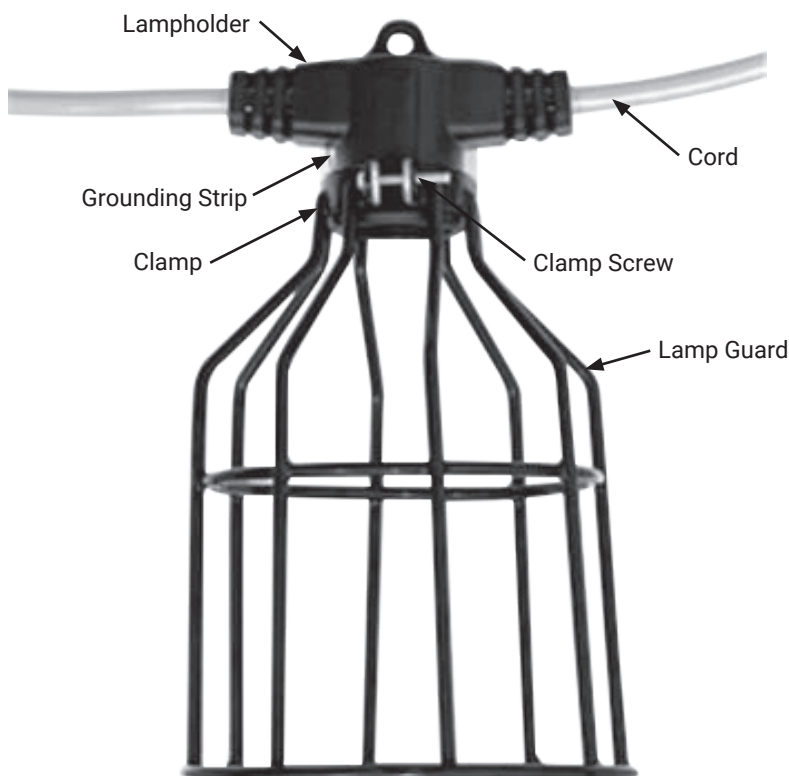

Figure 1
- Place clamp in designated clamp area (see Figure 1).